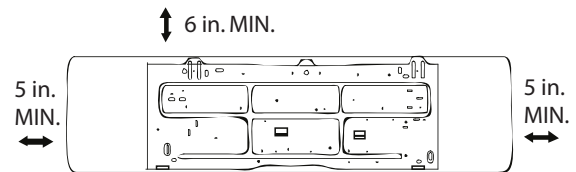

Fig. 5 —Required Clearances
- Proper clearance should be provided on the side and top as shown in Fig. 5.